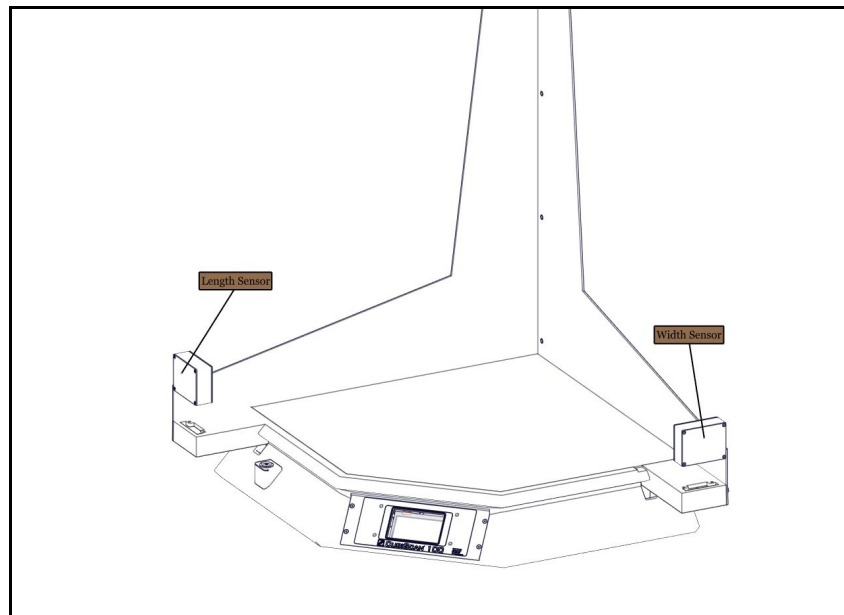

Figure 6
1. Place the width sensor, labeled “Right,” on the right, front corner of the base (see Figure 6). You will need to push the side panel out slightly to place the sensor in the correct position. If you tightened the front-most screw, you need to loosen it.